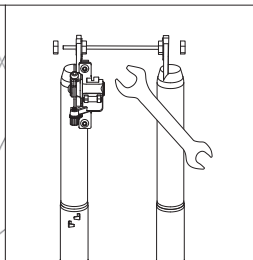

Figure 4-2
- Use a 15 mm open-end wrench to loosen screws and in sequence, as shown in the **Figure 4-2**, and remove the front fork protector.